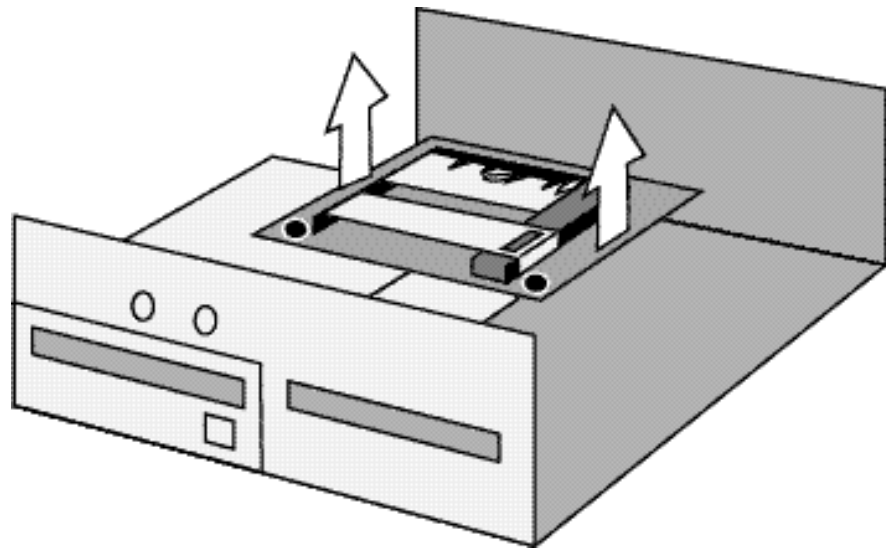

Fig.3
- (4) Remove the old connector (board), and insert the replacement connector. (Fig. 3)
- (5) Secure the replacement connector with two screws.
- (6) Install the case top.
- (7) Secure the case top with six screws.